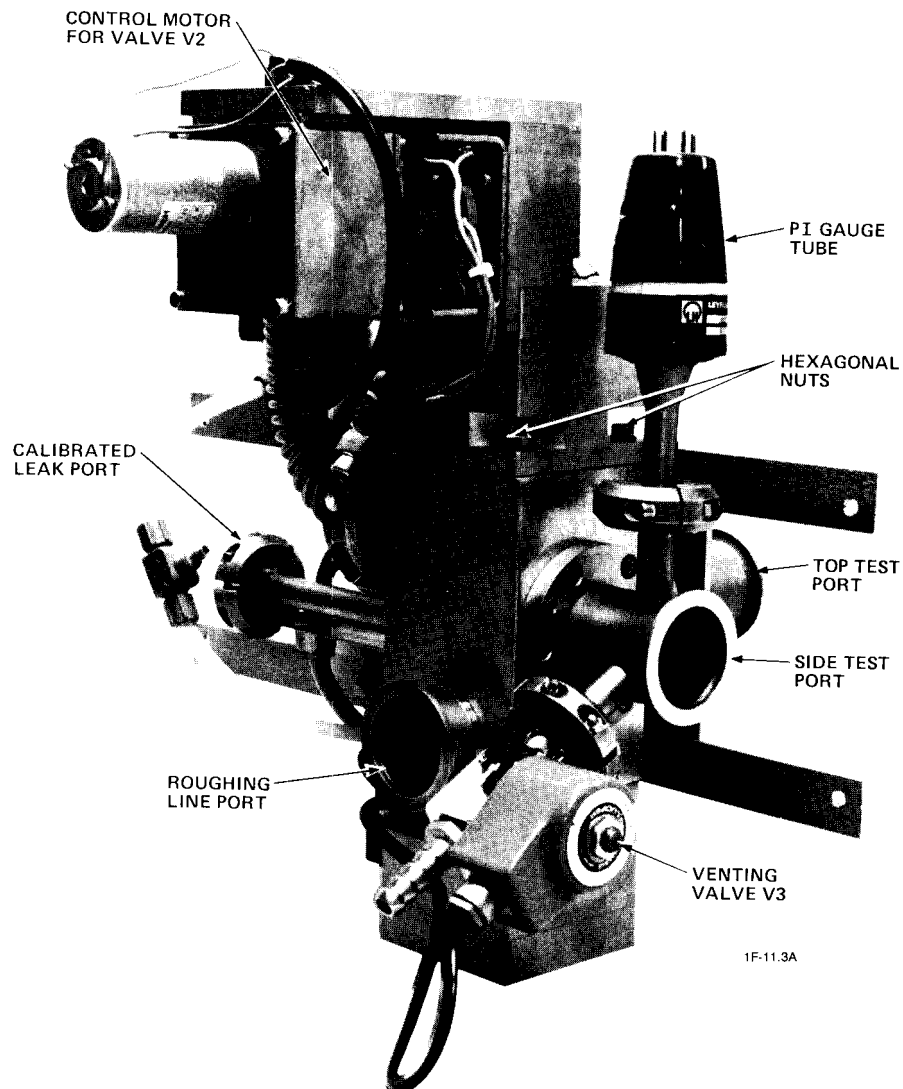

Figure 8-6 - Valve Block Removed from the Leak Detector
NOTE: It is not necessary to remove the control motor from valve V2 to replace the valve seat (see Figure 8-6).
Install a new valve seat as follows (see Figures 8-6 and 8-7).
5. Install new O-rings (29 and 32) and carefully assemble the valve block (see Figure 8-6, 8-7, and 8-8).